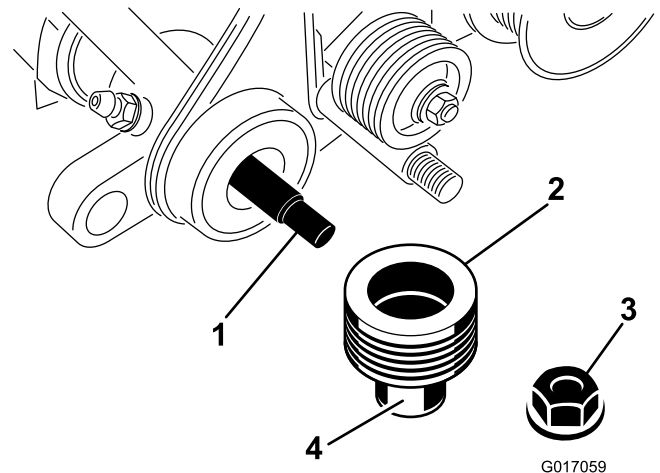

Figure 6
13. Apply grease to the seal surface of the drive pulley, as shown in Figure 6.
14. Slide the pulley onto the groomer shaft (Figure 6).
15. Secure the pulley to the shaft with a flange locknut (Figure 6). Torque to 23-28 N-m (17-21 ft-lb).
16. Apply grease to the seal in the left-hand support plate and to the end of the groomer shaft (Figure 6).